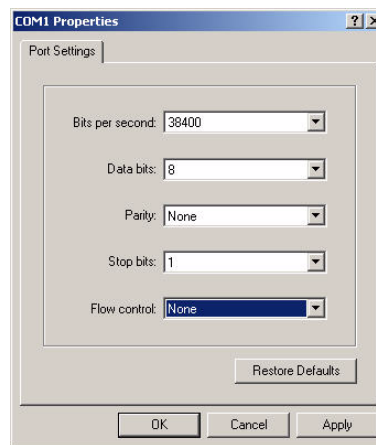

Figure 1-12. Default SMAC RS-232 Setting
This section describes how to set up the UART/USB virtual Com port for the Connectivity, Wireless UART and the rest of the demonstration applications. Figure 1-12 shows the default SMAC RS-232 settings.
1. In the PC terminal program, set the correct baud rate, data bits, parity, COM port, and flow control as shown in Figure 1-12.